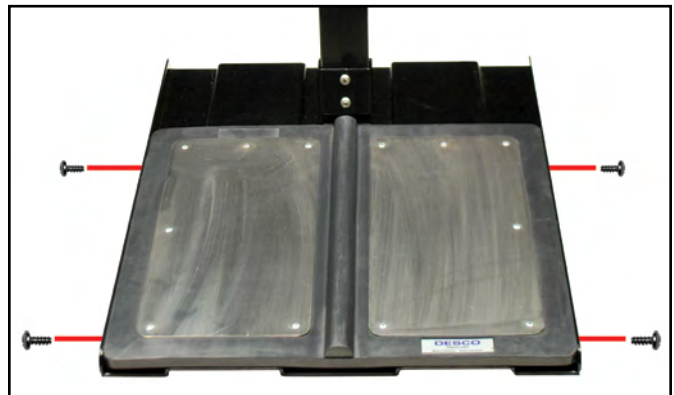

Figure 7. Securing the foot plate to the baseplate
- VIII. Fit the the foot plate into position so that it is flush with the front and top of the baseplate. Secure the foot plate to the sides of the baseplate using the four supplied screws (see Figure 7).